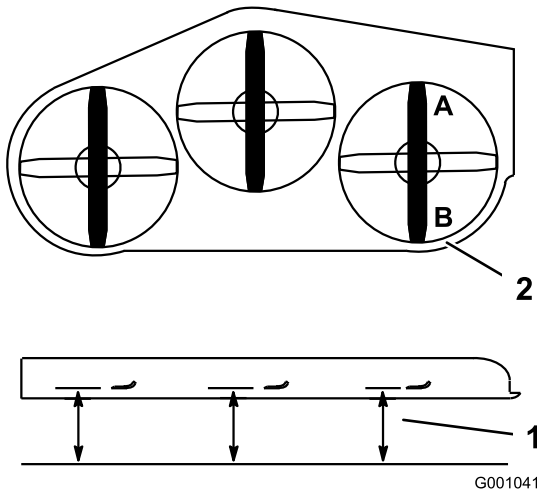

Figure 80
2. Position 1 blade front-to-rear. Measure at **A** and **B** locations from a level surface to the cutting edge of the blade tips (Figure 80).